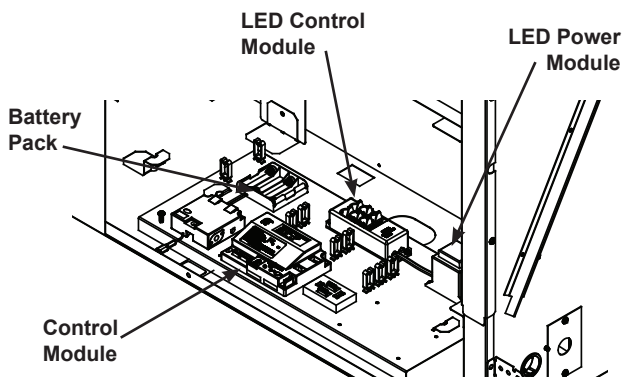

Figure 7
9. Place the LED control module and LED power module on the component tray. See Figure 7.